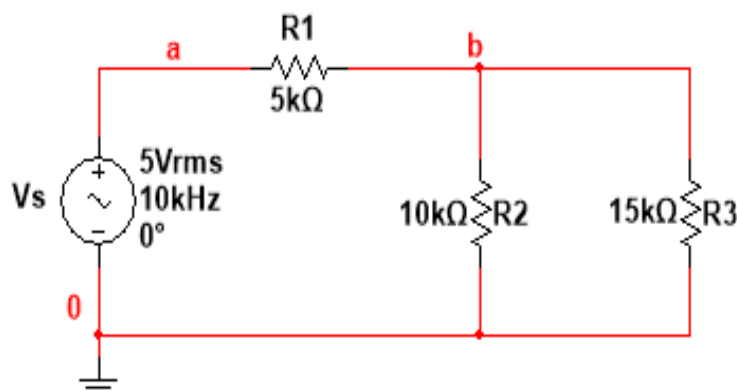

Fig.D.2.2.1: Circuit diagram of a purely resistive series-parallel AC circuit
- Measure the practical values of the circuit components (R_1 , R_2 , R_3) shown in Fig.D.2.2.1 using DMM and note down in the Table 2.1.
- Construct the circuit shown Fig.D.2.2.1 on the bread board. Use minimal wires.
1. Use the measured value of the components from Table 2.1 in Fig.D.2.2.1 and show the full theoretical calculations in Box 2.1 for I_{R1} , I_{R2} and I_{R3} .
1. Use the nominal values of the components in Fig.D.2.2.1 and show the full theoretical calculations in Box 2.2 for I_{R1} , I_{R2} and I_{R3} .
1. Draw the Current Phasor diagram of the circuit in Fig.D.2.2.1 with the calculated values from Box 2.2 in Box 2.3.
1. Construct the circuit in Fig.D.2.2.1 and show the source voltage V_S and node voltage V_b on Oscilloscope screen and show the branch current I_{R2} on multi-meter screen.
1. Construct the circuit in Fig.D.2.2.1 and find the branch current through R1, R2 and R3 using single frequency ac analysis.
1. Construct the circuit in Fig.D.2.2.1 and show the branch current through R1, R2 and R3 using transient analysis.